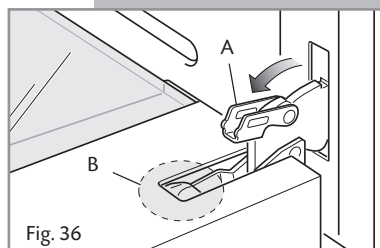
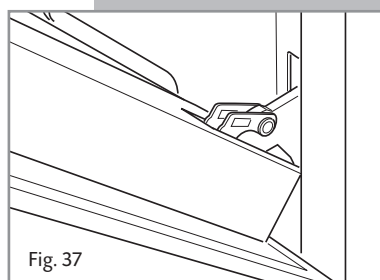

Fig. 36
Fig. 37
- Fully open the lever **A** on the left and right hinges (Fig 36).
- Gently close the door (Fig. 37) until the left and right hinges are hooked to part **B** of the door (Fig. 36).
1. Make sure the door is locked open (see fig. 37).